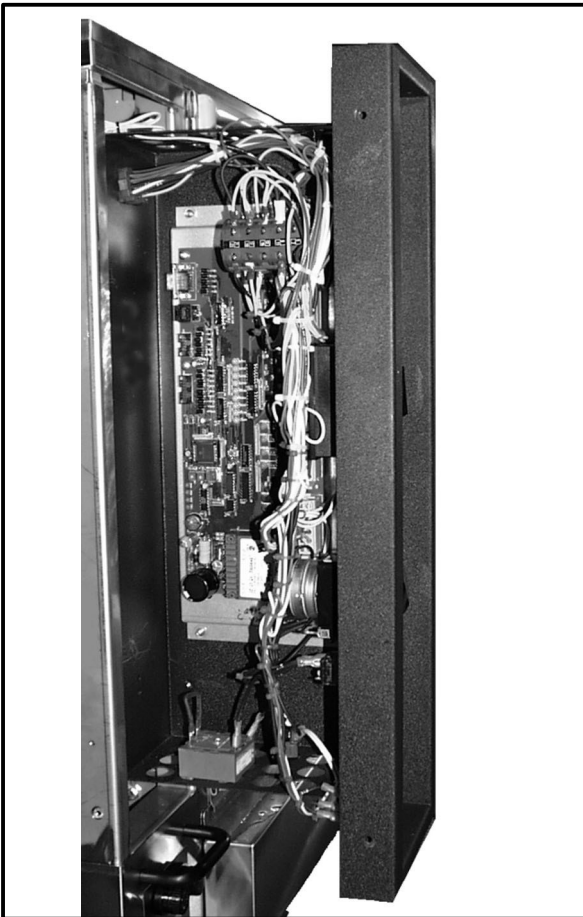

Figure 12
2. Remove the two screws located on the side panel. Slide the control module forward. See Figure 12.